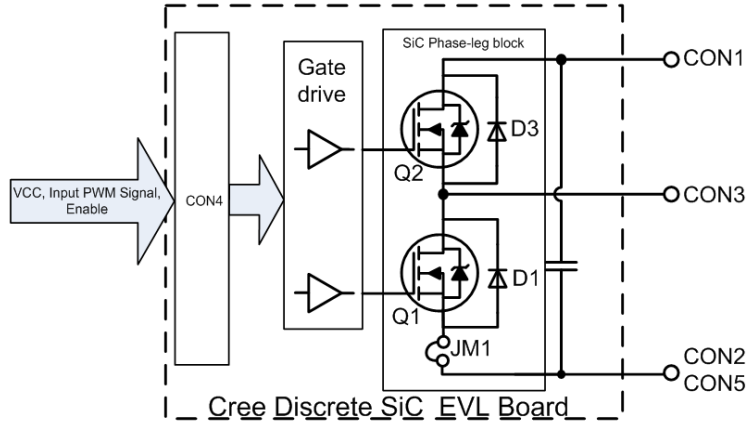

Figure 1. General block diagram of Cree Discrete SiC EVL board
The EVL board's general block diagram is shown in Figure 1. There is a phase-leg which can include two SiC MOSFETs (Q1 and Q2) with half bridge phase-leg configuration and two anti-parallel SiC schottky diodes (D1 and D3) with Q1 and Q2. The gate drive block with electrical isolation is designed on the board to drive SiC MOSFET Q1 and Q2. There are four power trace connectors (CON1, CON2, CON3 and CON5) and one 10 pin signal/supply voltage connector (CON4) on board.
**Please note that JM1 as shown in Figure 1 is open circuit. It is necessary to short this with a wire or insert a shunt as shown in section 6.2 to complete the circuit before operation.**